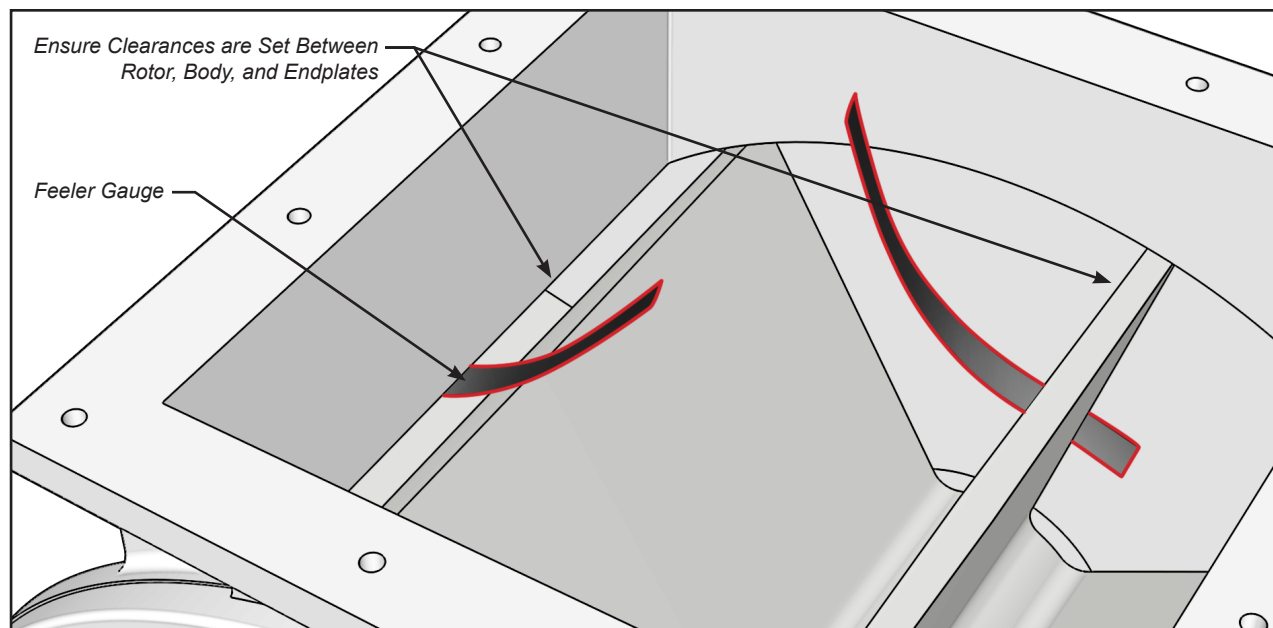

FIGURE 20
28. **Measure axial clearance (Figure 20).** Refer to Appendix 10 for clearance information. Extra clearance is acceptable. Not to exceed 0.0079" clearance to comply with NFPA requirements.
30. **Verify clearance using feeler gauges that ensure the rotor turns freely (Figure 20).**